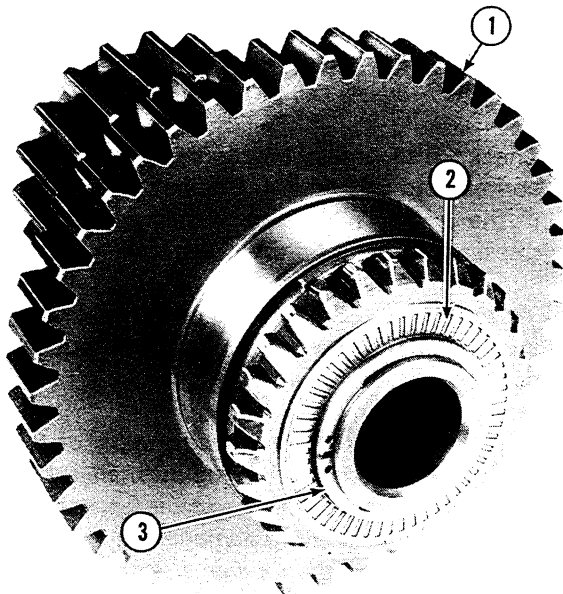

Figure 25
5. Examine the secondary countershaft (1), Figure 25, for excessive wear or damage. Inspect the thrust bearing (2) for excessive wear or damage. If necessary, install a new thrust bearing and secure with the retaining ring.